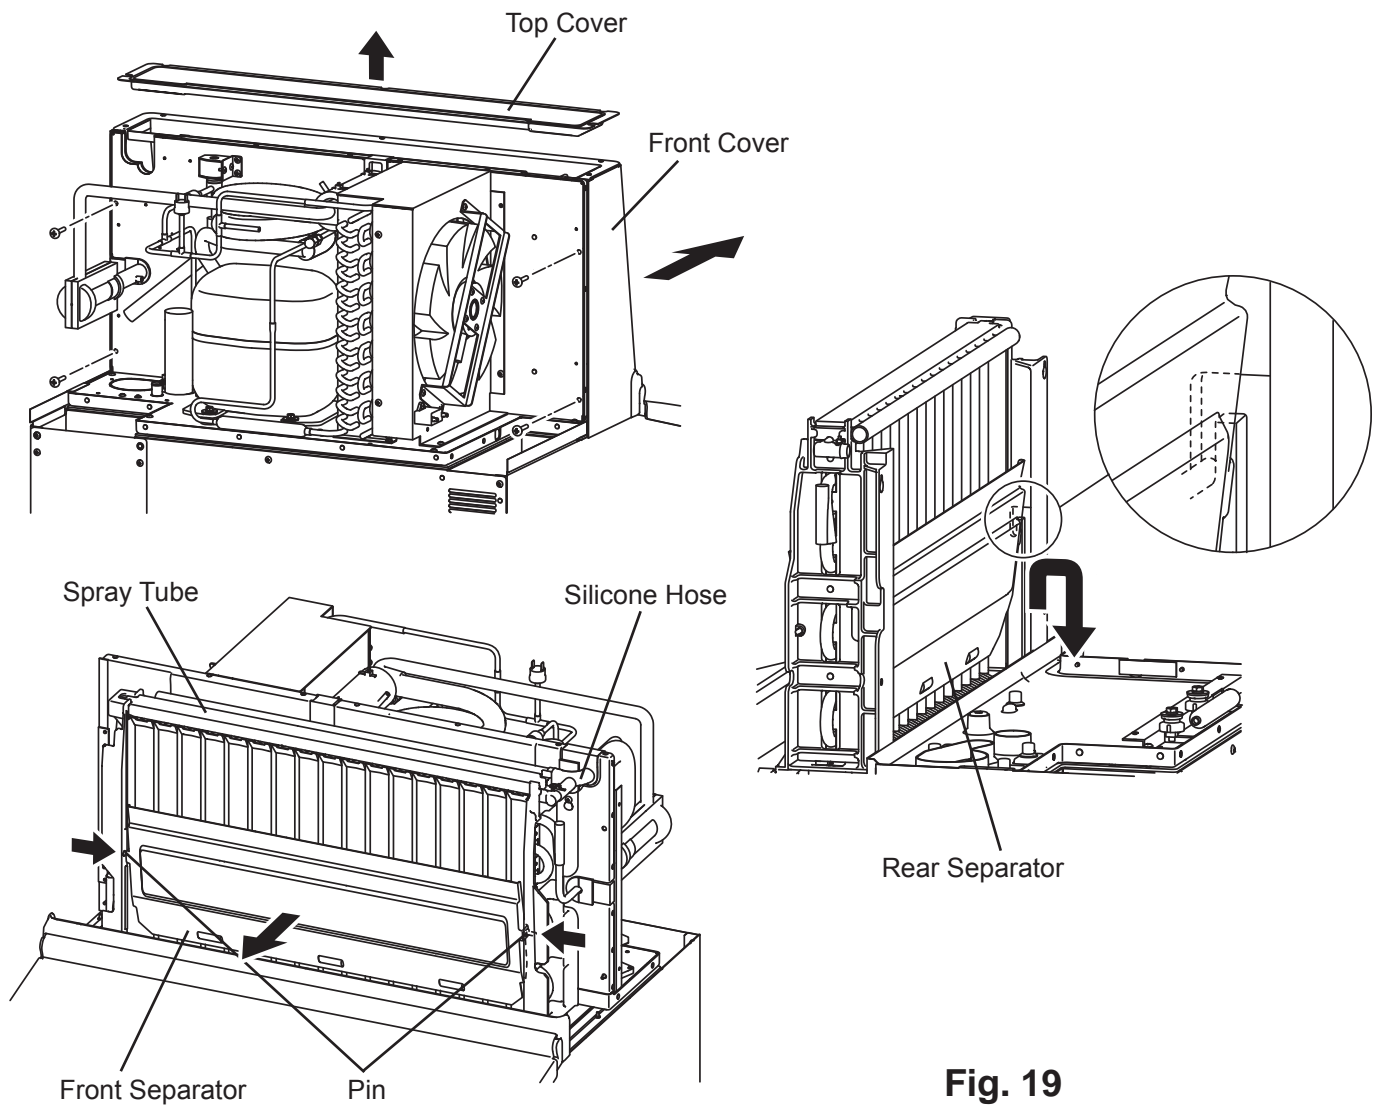

Fig. 19
- 2) Remove the top panel, rear panel and side panels (L) (R).
- 3) Remove the top cover and front cover. See Fig. 19.
- 5) Remove the front separator by pushing the pins inserted into both sides of the evaporator bracket toward the center. See Fig. 19.
- 6) The rear separator is hooked on the groove in the evaporator bracket. Remove the rear separator by lifting it up and down. See Fig. 19.